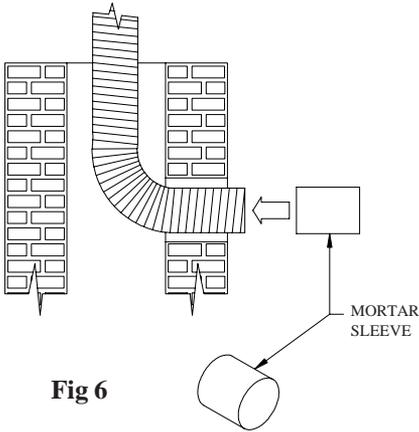

Fig 6
Step 6. Slide the Mortar Sleeve over the Flex Liner, until the Mortar Sleeve is flush with the wall of the masonry chimney (**Figure 6**). Once the Mortar Sleeve is in place, the space between the Mortar Sleeve and the masonry may be filled with grout.